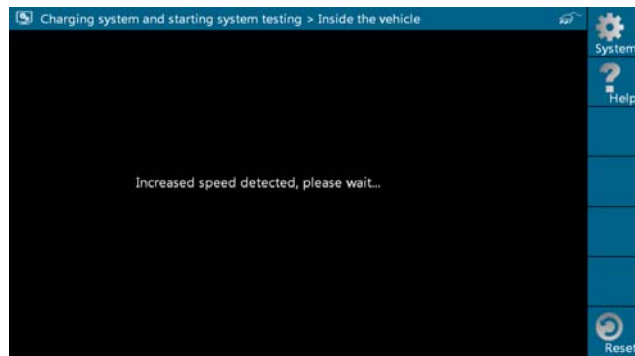

Fig. 3-11
3. The system begins to receive test data information after acceleration was detected, as shown in Fig. 3-11.